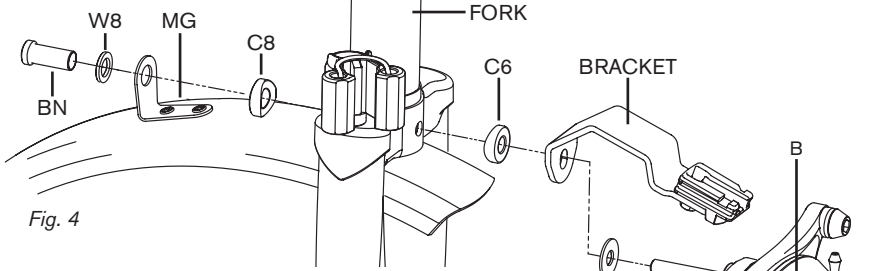
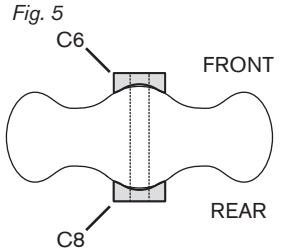

Fig. 4
Fig. 5
- The bracket should be fitted between the fork crown and front brake (fig. 4), if the bike has a front reflector or dynamo light bracket fitted it will need to be removed, along with the die cast washer (fig. 2) if used
- Reassemble with the light bracket in the order as shown (fig. 4) with concave washer C6 (6mm hole) and C8 (8mm hole) fitted in the correct orientation (fig. 5) on both sides of the fork crown